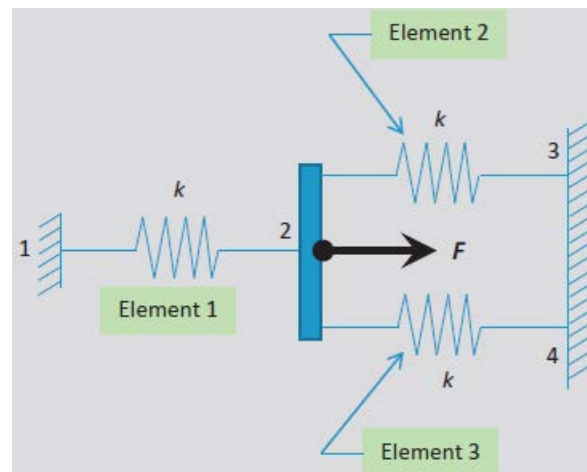

Figure P1.11
11. Determine the field values (nodal displacements and internal forces) for the following structural system shown in **Figure P1.11**. Take $K = 40,000 \text{ N/m}$, $F = 5000 \text{ N}$.